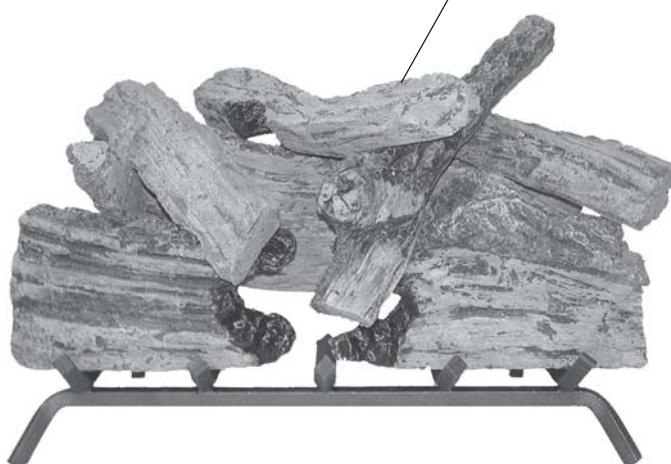

Figure 109 - Installing Top Center Log (#7)
9. Lay Top Center Log #7 across log #3 with front end resting on Log #5. See Figure 109.